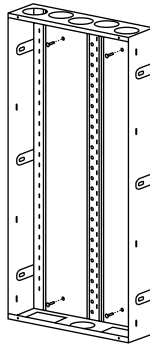

Figure 3-4. Tightening mounting screws after aligning mounting holes with pilot holes.
3. Make sure that the Pure Home Networking Box is right side up. Align the mounting holes with the pilot holes, and start tightening the mounting screws into the pilot holes. (See Figure 3-4.)